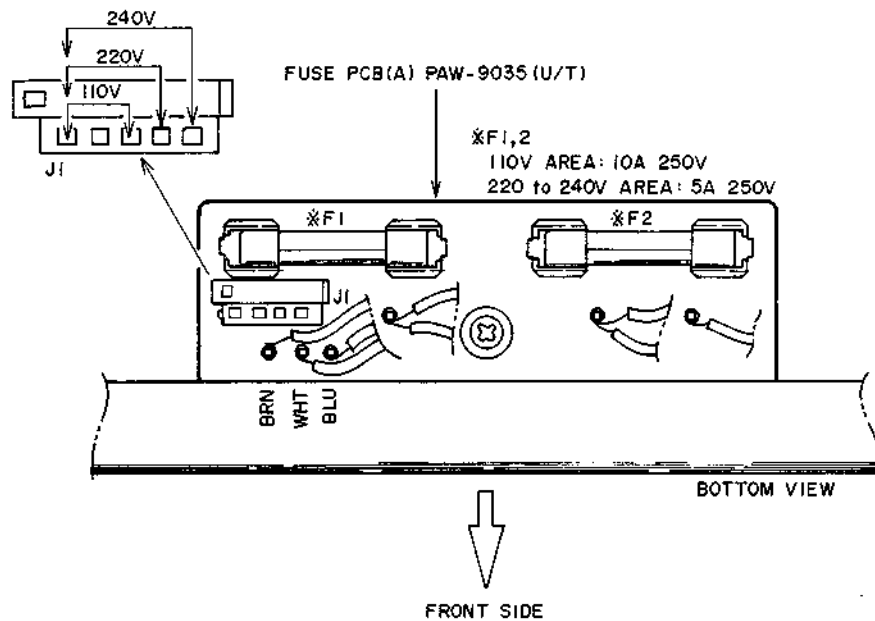

Fig. 5 Fuse P.C Board (A) PAW-9035
- 4) Change the fuses F1, 2 on Fuse P.C Board (A) PAW-9035 as shown in Fig. 5.
- 5) Connect line in J1 on Fuse P.C Board (A) PAW-9035 as shown in Fig. 5.